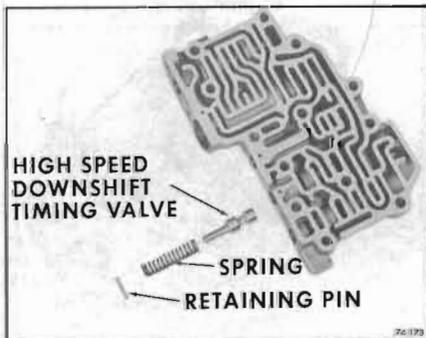

Figure 74-173
1. Install high speed down shift timing valve and spring. Depress spring with J-21547-1 and install retaining pin. See Figure 74-173.